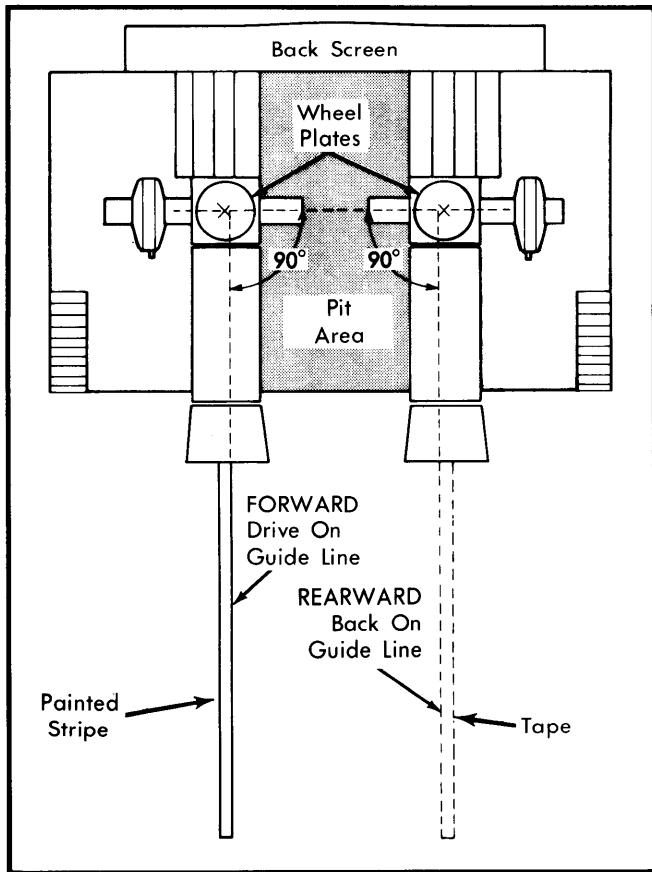

Fig. 12 Typical Alignment Machine Set Up For Rear Wheel Alignment
2) Place tape on floor from alignment wheel plate rearward for 20 feet. See Fig. 12. Back vehicle onto alignment machine as straight as possible, with rear wheels on wheel plates.